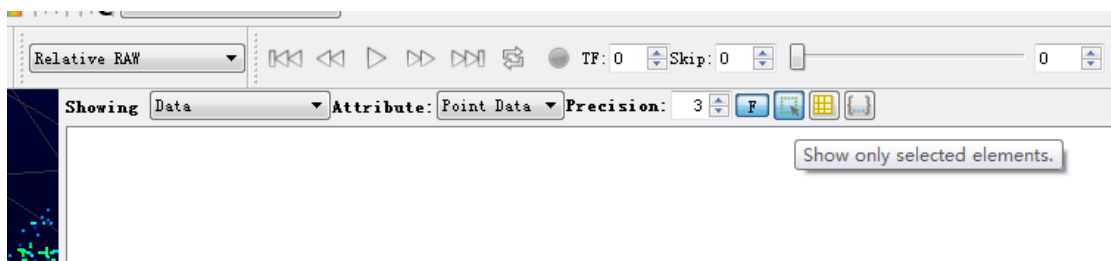

Figure A-18 RSVIEW show only selected elements tool
7. Click **Show only selected elements** in the spreadsheet, only the data of selected points will be displayed. If no point is selected, there will be no data shown in table (Fig. A-18).